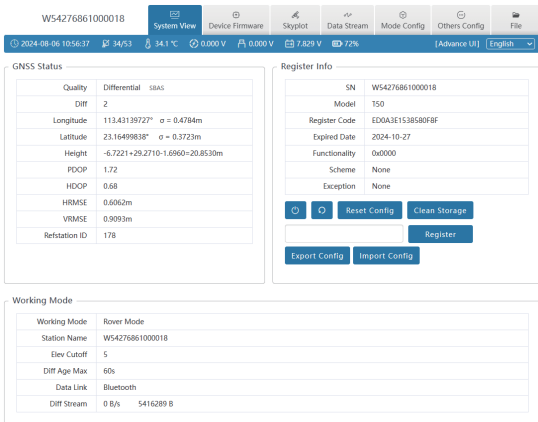

Figure 2.1-1
① GNSS Status: Quality, diff, Longitude, latitude, Height, accuracy, Ref station ID;
② Register info: SN, Model, Register Code, Expired Date, Functionality, Scheme, Exception;
③ Working mode: working mode, Station name, Elev cutoff, Diff Age Max, Data Link, Diff Stream.
④ Device Operation:
3) Registration code: The registration code is a valid time code that authorizes the device positioning function. When the registration code is found to have expired and the device positioning function is unavailable, you can obtain a new registration code from the supplier by providing the device number, enter it into this page, and click [Register] to register. The page effect is shown in Figure 2.1-1.